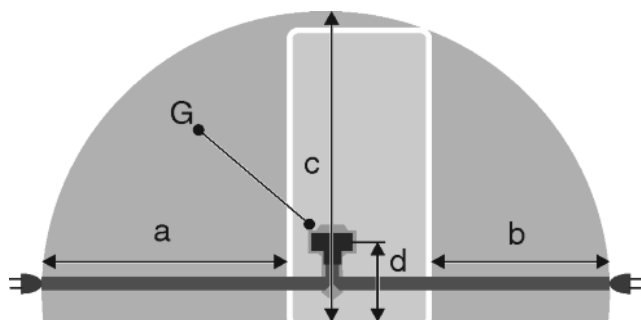

Fig. 25
- The socket is outside the back of the appliance area in the specified area Fig. 25 (a, b, c).
- Insert the appliance plug Fig. 25 (G) into the back of the appliance. Ensure that it clicks into place.